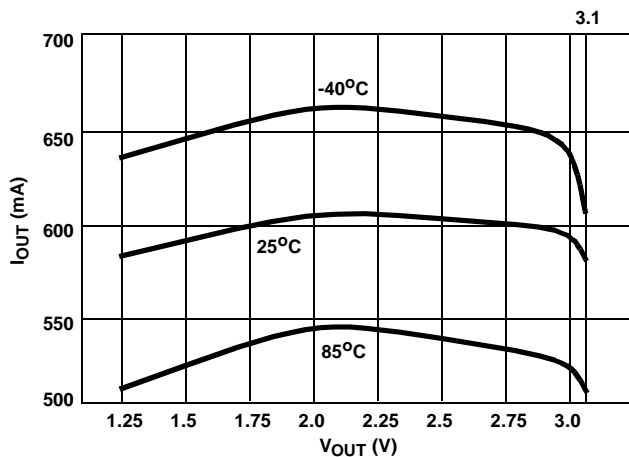

FIGURE 4. CURRENT REGULATION vs V_{OUT} (VIN = 3.3V)
The ISL6118 has integrated current sensing on the power MOSFETs that allows for rapid control of OC events. Once an OC condition is detected the ISL6118 goes into its current regulation (CR) control mode. The ISL6118 CR level is set to a nominal 0.6A and is regulated to within $\pm 25\%$ over full temperature, bias voltage range and OC magnitude. The speed of this control is proportional to the level of OC. Thus a hard OC is more quickly controlled than a marginal condition. See Figures 4 through 7 for current regulation performance curves and waveforms.